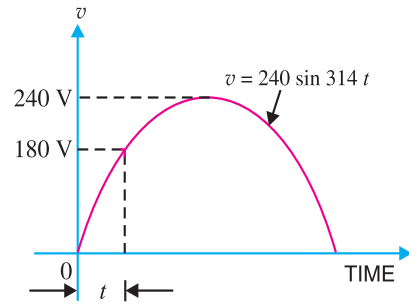

Fig. 20.13
**Solution.** The SCR will remain off till the voltage across it reaches 180 V. This is shown in Fig. 20.13. Clearly, SCR will remain off for  $t$  second.